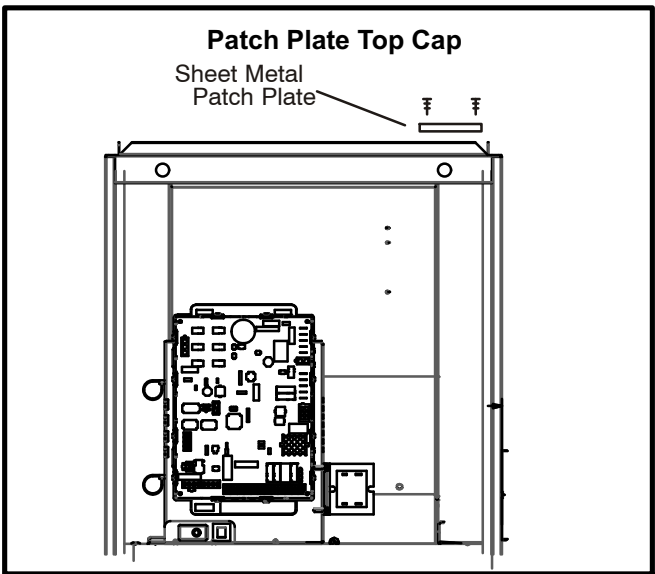

FIGURE 2
- 7 - Re-use the patch plate to cover the hole in the top cap. See figure 2. Remove the 2 screws which secure the top cap to the furnace on the right side and re-install securing the right edge of the patch plate and the right side of the top cap to the furnace. Use 2 self-drilling sheet metal screws (provided) to finish securing the left edge of the patch plate on the left side.